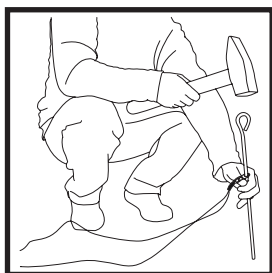

Fig. 3
5. Drive the spike into the ground to define the centre point of your tent (Fig. 3).